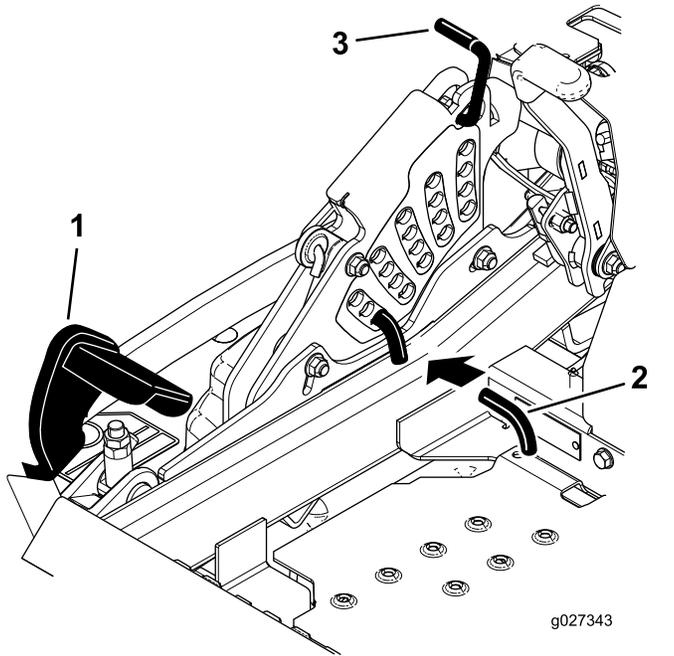

Figure 31
2. Push on the deck-lift pedal with your foot, and raise the mower deck to the transport position (also the 140 mm (5-1/2 inch) cutting height position) as shown in Figure 31.
3. To adjust, rotate the pin 90 degrees and remove the pin from the height-of-cut bracket (Figure 31).
4. Select a hole in the height-of-cut bracket corresponding to the height-of-cut desired, and insert the pin (Figure 31).